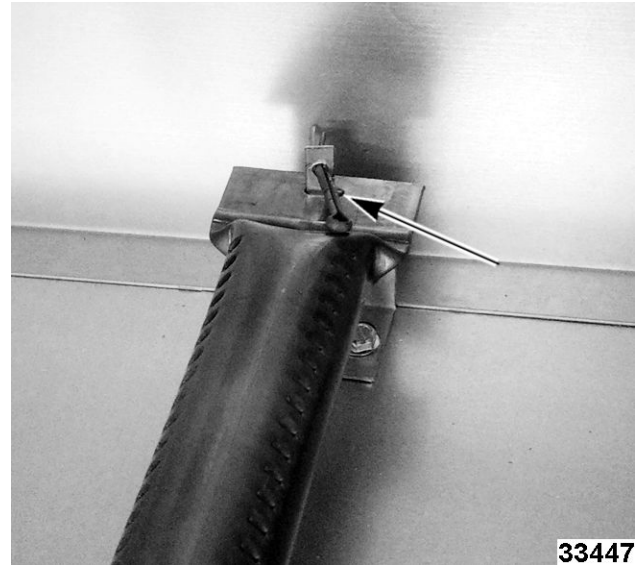
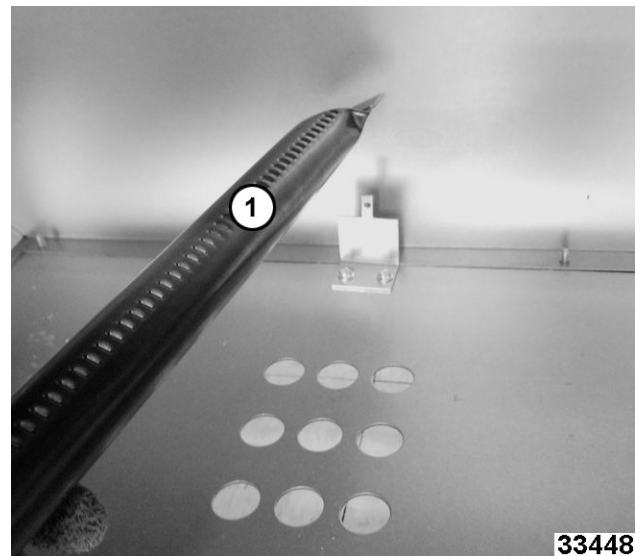

Fig. 12
Fig. 13
5. Lift up back of burner (1, Fig. 13) and move burner toward rear of oven to disengage from burner orifice (2, Fig. 12).